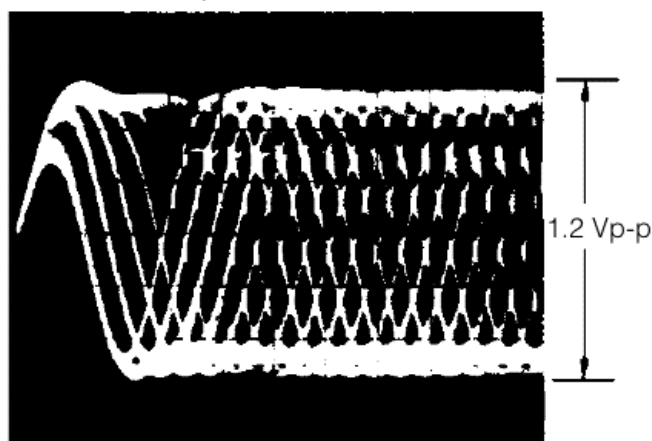

FIGURE 28-7 The RF eye-pattern waveform-level verification test.
Connect the oscilloscope to TP1, pin 1 (RF) with the player in Test mode and Play. Use a YEDS-7 test disc. Move the pickup to midway across the disc with the track/manual search FWD or REV key. Then, press the PGM (program) key, the Play key, and then press the Pause key (in that order) to close the respective server and put the player into Play mode. Verify the RF signal amplitude at $1.2 \text{ V}_{\text{p-p}} \pm 0.2 \text{ V}$ (Fig. 28-7).